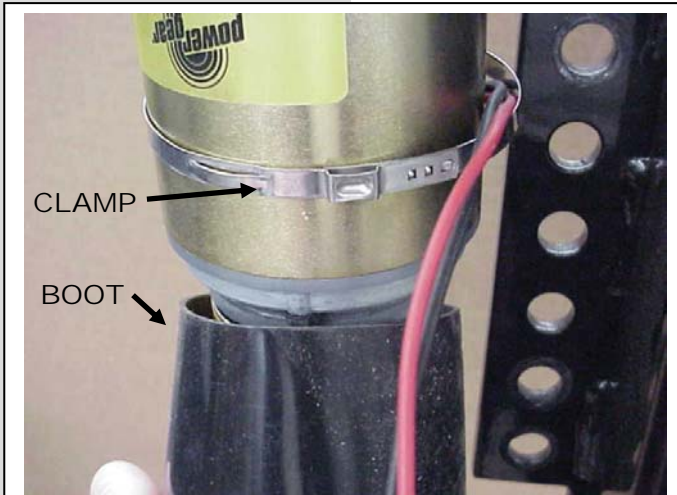

Figure 6
1. Slide the metal clamp around the motor housing and hold in place (FIGURE 6).